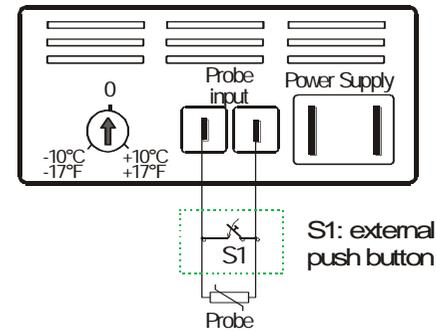

Fig.2
5. EXTERNAL PUSH-BUTTON CONNECTION (FIG.2)
- Connect the push button in parallel with the probe as shown in Fig.2.